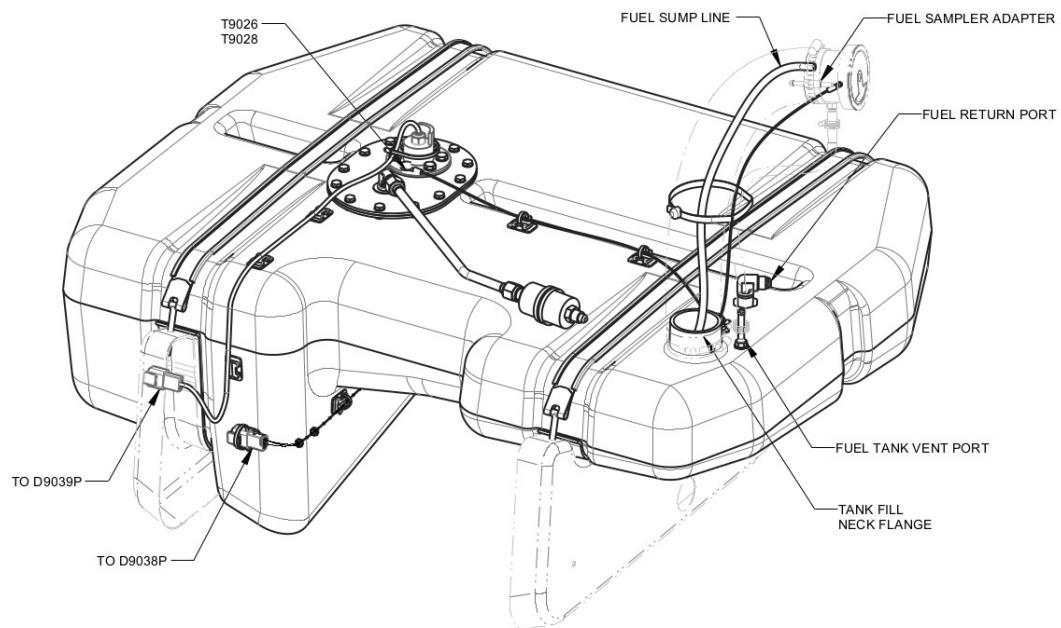

FIGURE 10-7
6. Route fuel sump hose through bottom end of fuel filler neck and connect the fuel sump hose to sump hose adapter using a new CLAMP, HOSE, CRIMP (Oetiker clamp). Tighten with ear-clamp crimpers. (See Figure 10-7.)
15. Connect the optical switch connector to D9038P from fuselage wire harness. (See Figure 10-7.)
16. Connect the fuel level sensor connector to D9038P from fuselage wire harness. (See Figure 10-7.)
- a. Use a 7/16 wrench to remove bolt and washer. (See Figure 10-7.)